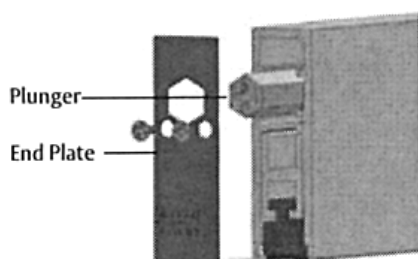

Figure 5
4. Next insert the plunger end plate with the hexagon hole. It serves to prevent the plunger from rotating and changing adjustment (as shown in Figure 5). This end plate may need to be removed for readjustment. Secure the end plate using the supplied screws. End plate "This Side In" sticker should be facing the Automatic Door Bottom and the Pemko Logo should be visible and facing outwards.